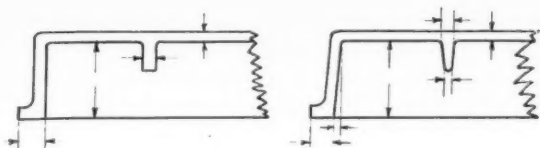

Fig. 1—Casting without (left) and with (right) proper taper for easy removal of pattern from the sand
**Draft.** Regardless of type of pattern equipment, draft and shrinkage must be considered in all pattern designs. Sufficient taper on all vertical faces must be allowed to remove the pattern from the sand without excessive rapping and subsequent patching, Fig. 1. Drawings should specify whether this draft is to be added